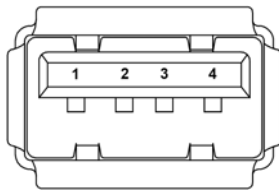

Figure 4-23: USB Connector Pinout Locations
- CN Pinouts:** See **Figure 4-23** and **Table 4-17**